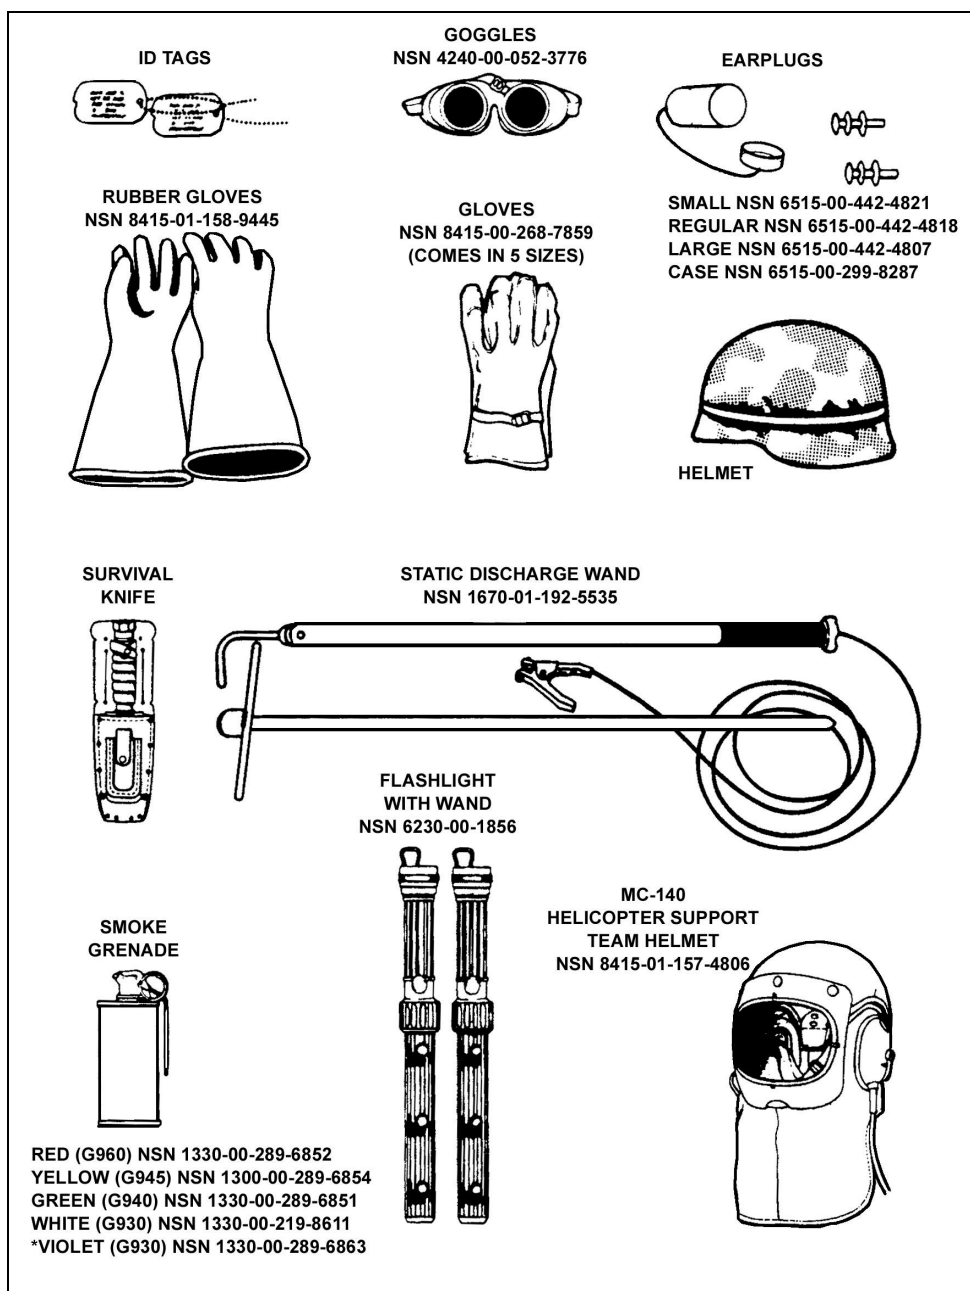

Figure 5-17. Protective equipment.
a. **Ground Crew Protective Measures and Equipment.** Working around hovering helicopters exposes ground crews to a variety of dangers. Leaders must do everything they can to ensure the safety of the ground crews. The crews themselves should use the following safety equipment (Figure 5-17):